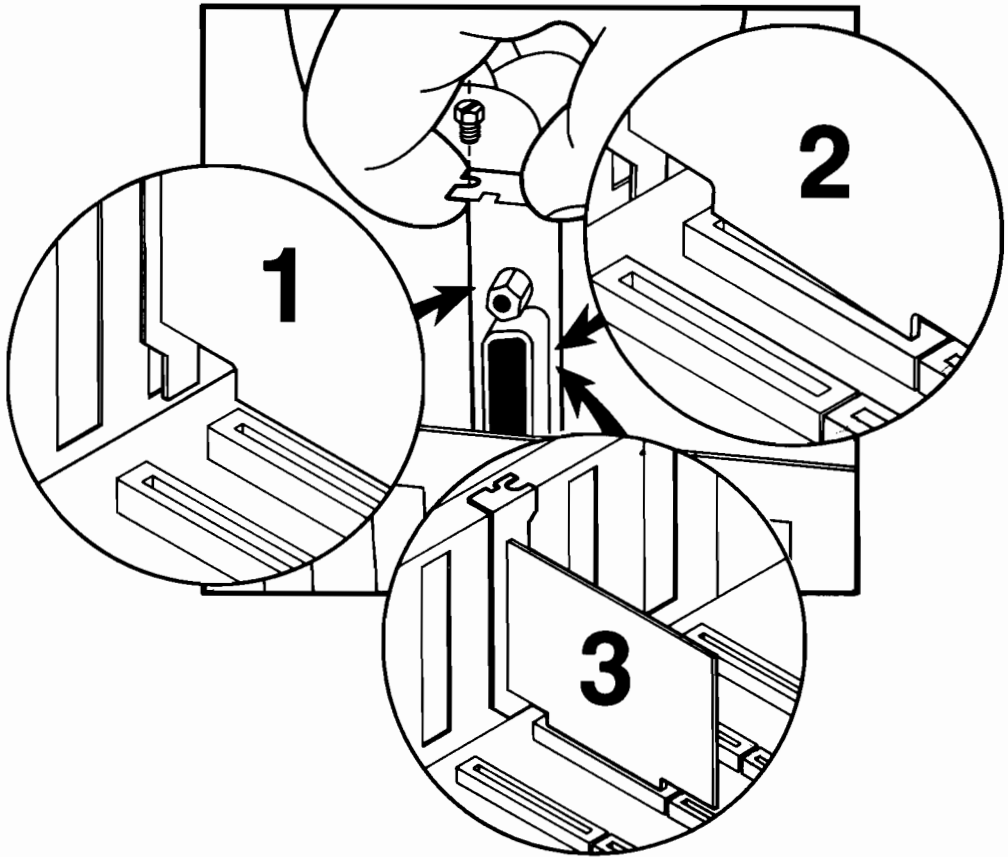

Figure B-4. Installing the Card
7. Hold the card with the edge connector down and the cable connector toward the rear of the computer. Insert the plug-in connector into the slot and press the card down firmly to make sure the connector is fully seated. (Figure B-4.)